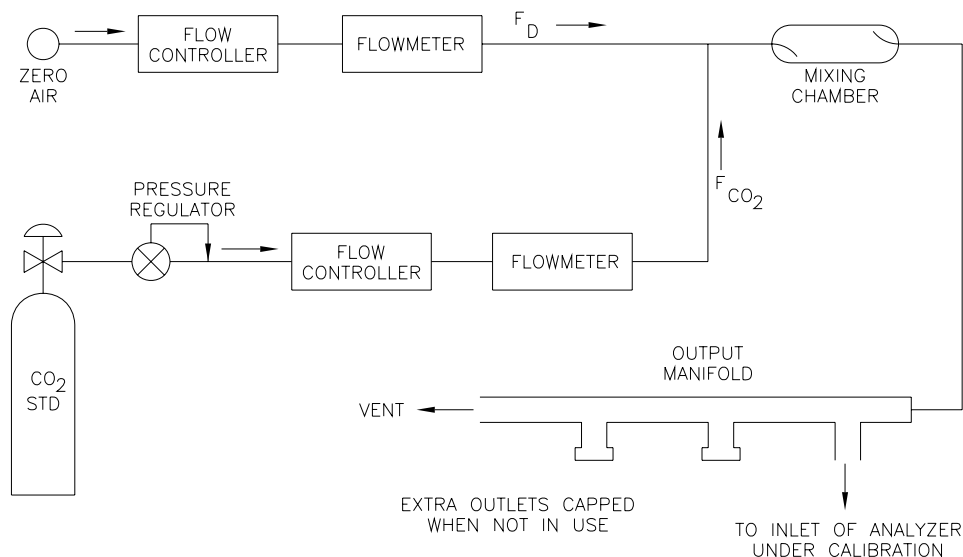

Figure 4–1. Calibration Flow Schematic
2. Adjust the dilution system of Figure 4–1 so that zero air alone is present in the manifold.